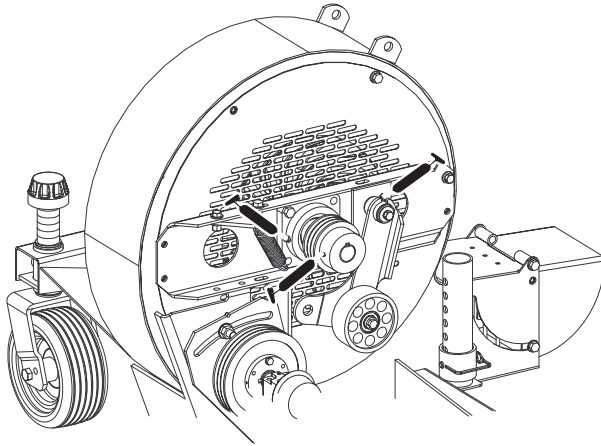

Figure 7
The Idler arm bearing (Fig. 7) must be lubricated after every 8 hours of operation with a No. 2 Lithium based grease.
The overrunning clutch pulley (Fig. 7) must be lubricated after every 8 hours of operation with a No. 2 Lithium based grease.
The (2) fan shaft bearings (Fig. 7 & 8) must be lubricated after every 8 hours of operation with a No. 2 Lithium based grease.